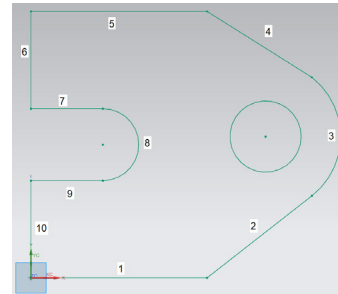

Figure 3-31 The sequence to be followed for drawing the sketch
- Choose the **Line** tool from the **Curve** group. Draw the outer profile of the sketch, refer to Figure 3-31. You can draw the first line with exact dimension and then draw the remaining sketched entities with dimension values close to the required dimension values. Note that the start point of line1 is at the origin.
- Next, choose the **Circle** tool from the **Curve** group. Move the cursor over the arc that is numbered 3 in Figure 3-31; the center point of the arc is highlighted.
- Once the center point gets highlighted, move the cursor over it and press the left mouse button to specify the center point of the circle. Now, move the cursor away from the center point and specify the diameter of the circle by clicking the left mouse button or by entering the diameter value in the diameter input box. The circle is created, refer to Figure 3-31.